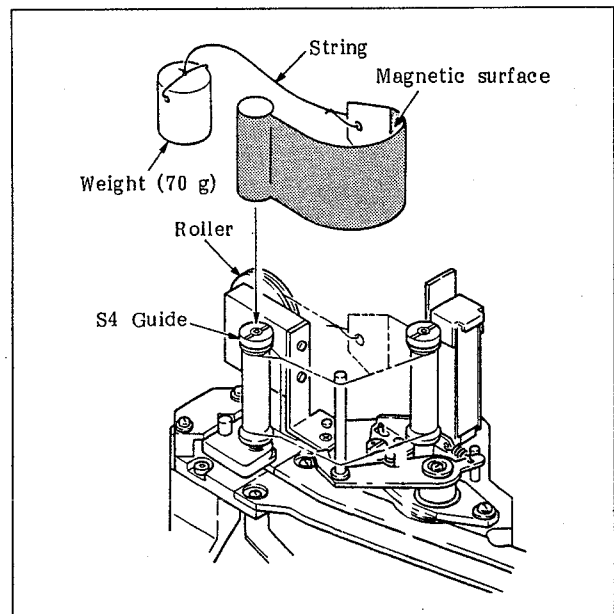

Fig. 9-9 Adjusting the Tension Using a 70 g Weight
29. Place the tension adjustment tool with its 70 g weight on the S4 guide and set the tape portion as shown in Fig. 9-9, then pass the string over the roller.